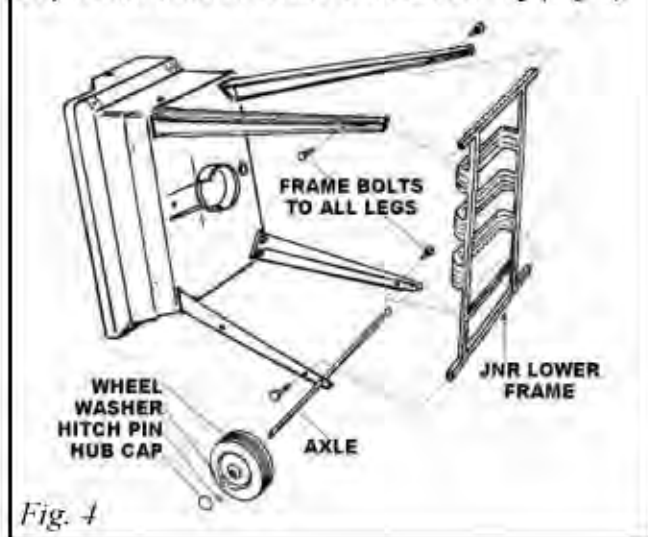

Fig. 4
(B) JCP and JCN (Fig. 4) carts use (4) 1/4-20x 3/4" slotted head bolts to fasten the frame at all 4 corners.
Step 3: JCP3/JCN3 Lower Shelf Assembly (Fig. 4)